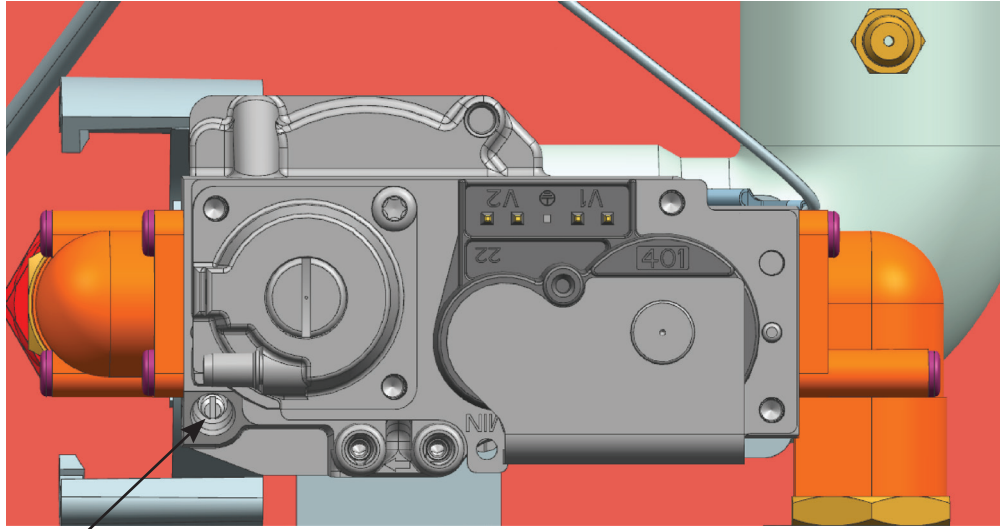

Fig. 7: Throttle Screw Location
6. If the combustion levels during high fire are outside the recommended combustion settings (see Table 1), adjust the THROTTLE SCREW (see Fig. 7) using a flat-blade screwdriver as follows: